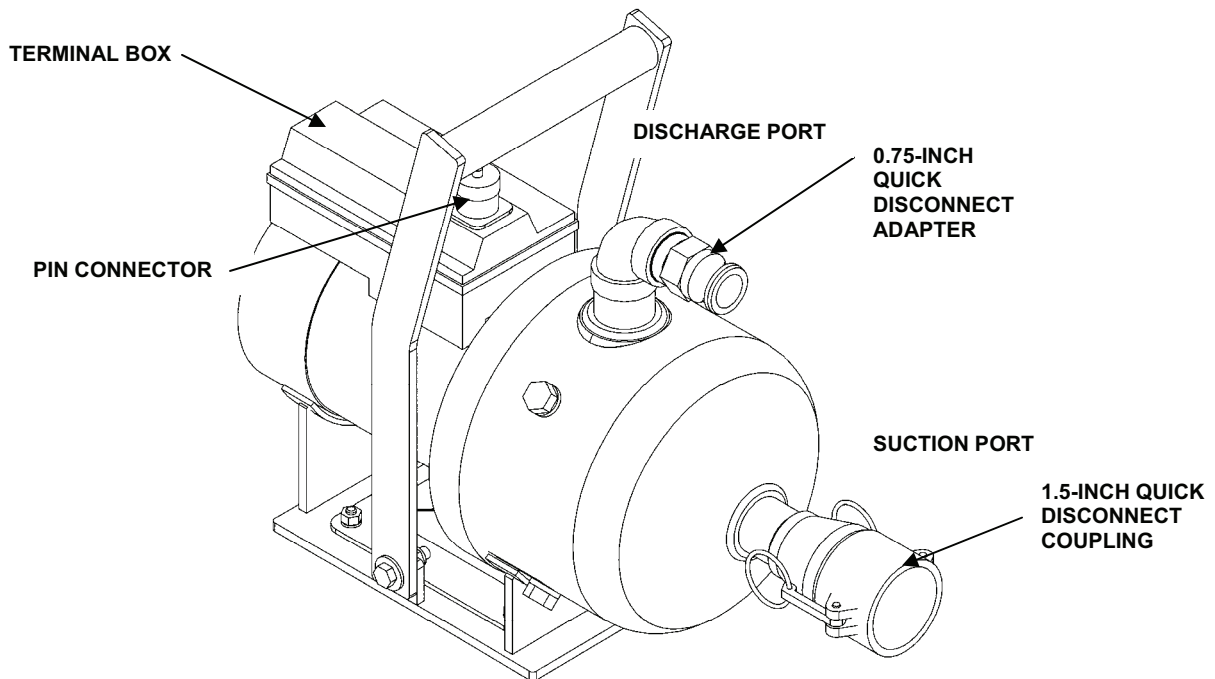
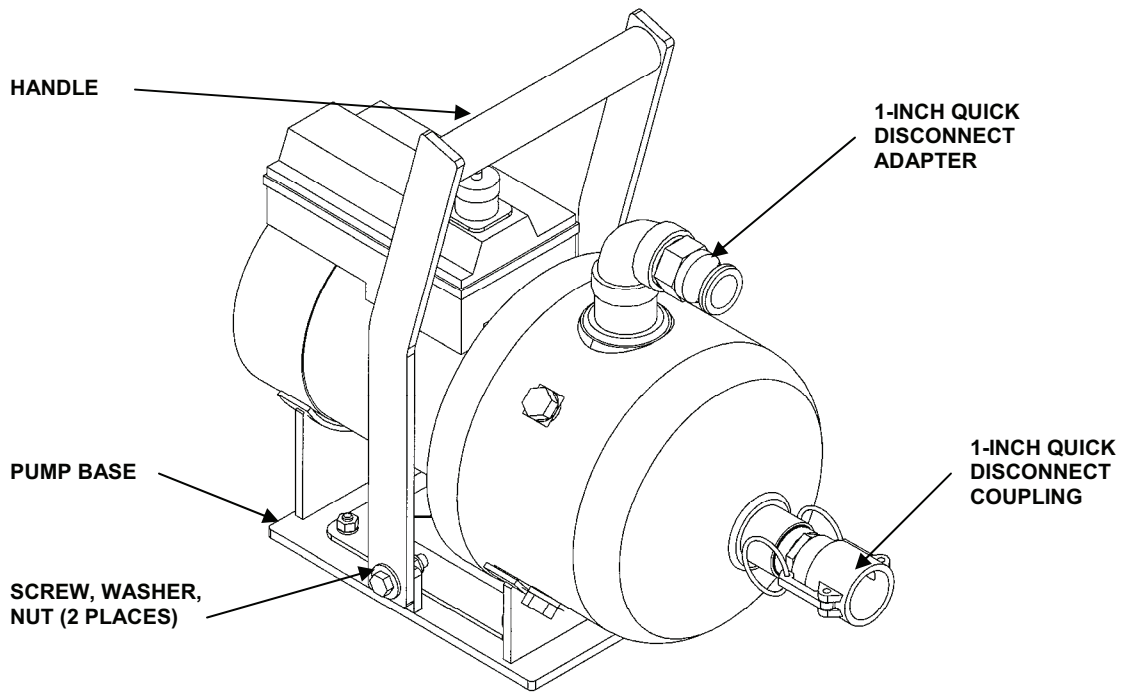
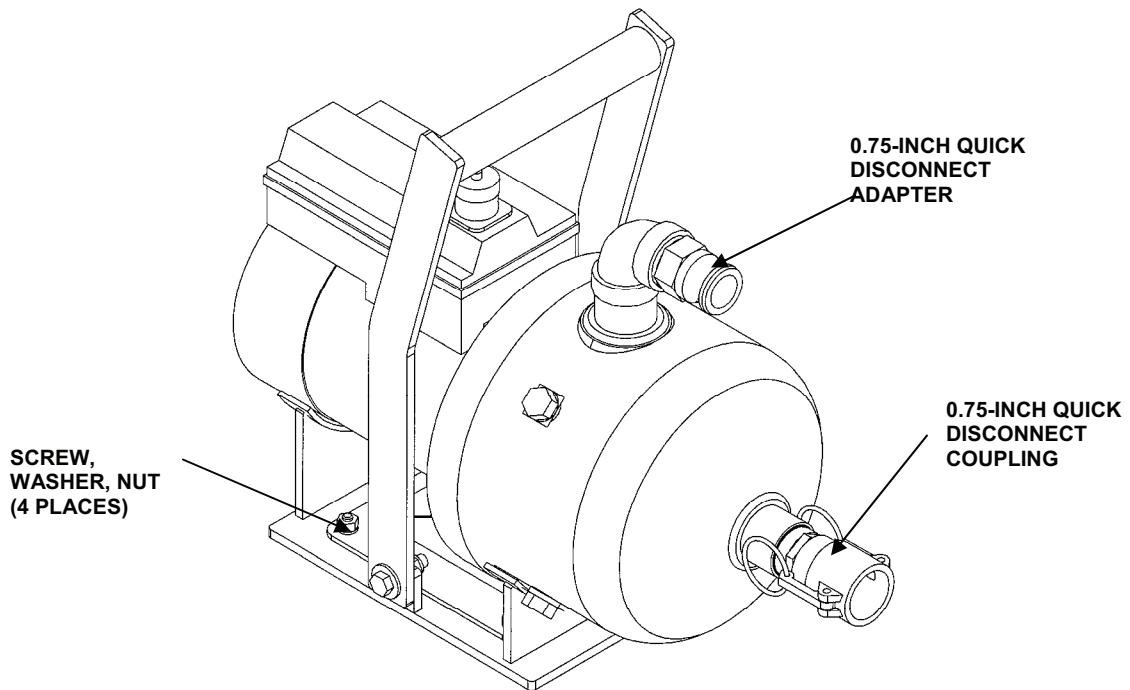

Figure 1. Raw Water Service Pump.
Figure 2. Distribution Service Pump.
Figure 3. Booster and Backwash Service Pump.
1. Remove electrical cable connections from the motor terminal box before disassembling the raw water, booster, backwash, or distribution service pump. See Figure 1, Figure 2, and Figure 3.